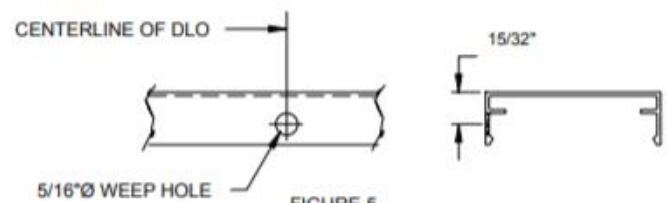

FIGURE 5
2.4 Horizontal face caps are to be cut D.L.O. minus 1/16". Drill 5/16" weep hole on bottom of cap at centerline. See FIGURE 5, page 6.